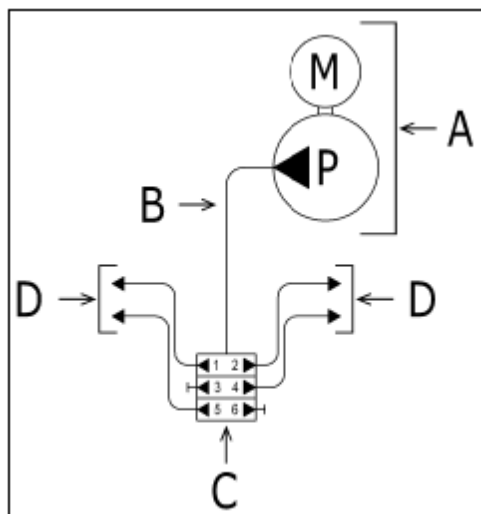

Figure 1
**Figure 1** shows a schematic of a series progressive lubrication system in its basic form. The system schematic is comprised of the following components: